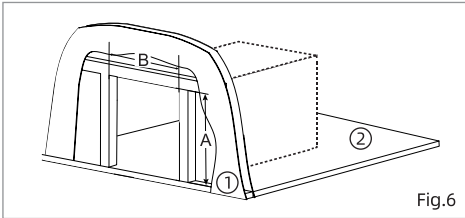

Fig.6
1. Determine your existing cut-out. (Fig.6)